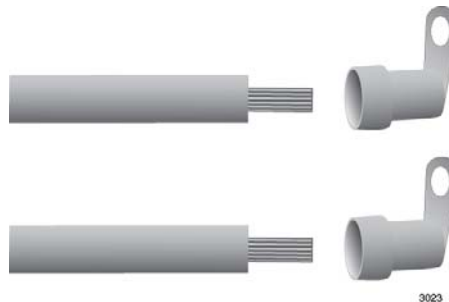

Figure 71. Attaching the Power Wires to the Right Angle Terminal Lugs
2. Insert the power wires into the terminals included with the power supply and use a crimping tool to secure the wires to the terminals. See Figure 71.